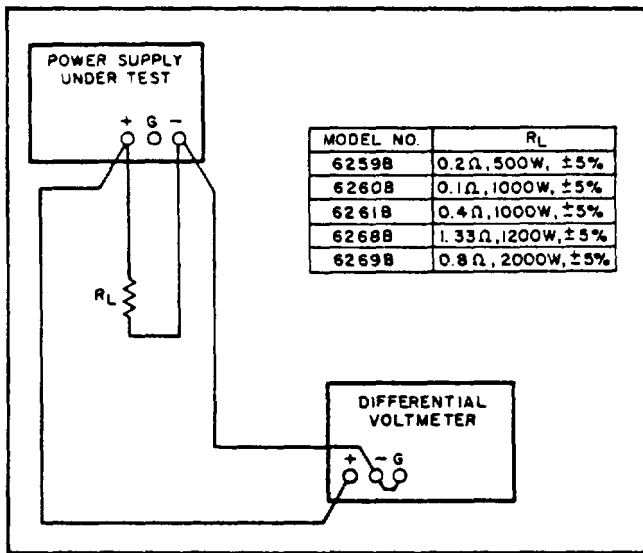

Figure 5-2. Constant Voltage Load Regulation Test Setup
- a. Connect load resistor (R_L) indicated in Figure 5-2 across output terminals of supply.
a. Connect test setup shown in Figure 5-2.
- a. Connect load resistance and differential voltmeter as illustrated in Figure 5-2.